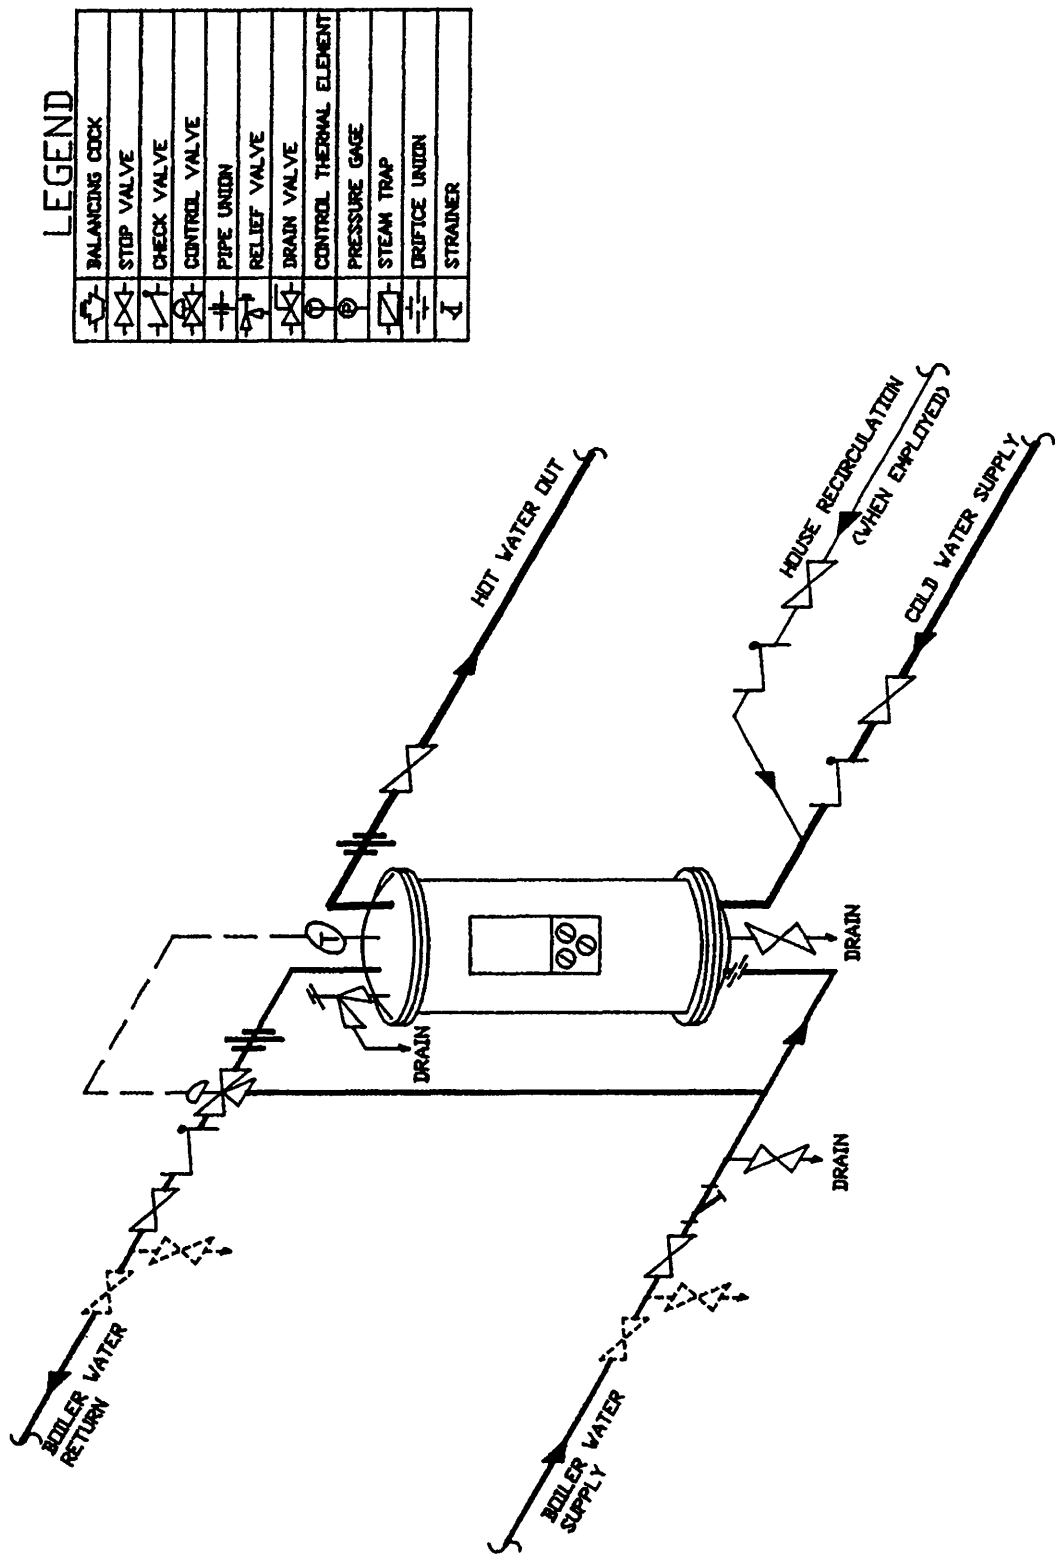

Figure HE-108-6 -- Piping Required for Water to Water Packaged Heater, Model WM3E-PLUS,
- Water to Water with 3-Way Control Valve -- Figure HE-108-6
- i. The piping line shown in Figure HE-108-6 from the Primary supply line to the B port of the 3-Way Control Valve is required to assure constant and adequate circulation of the Primary Hot Water where such is necessary